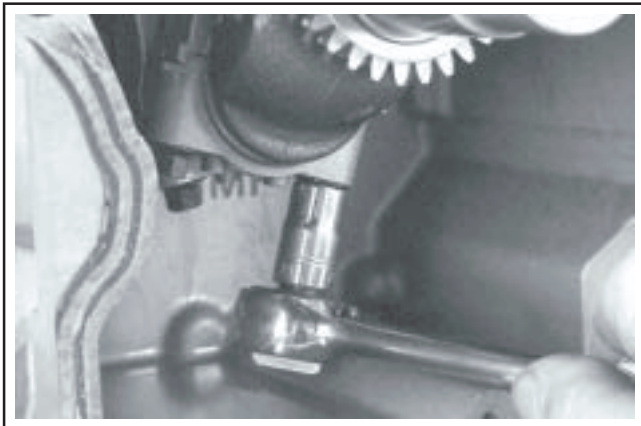

Figure 9-61. Removing Connecting Rod End Cap.
1. Remove the two hex. flange screws securing the closest connecting rod end cap. Remove the end cap. See Figure 9-61.